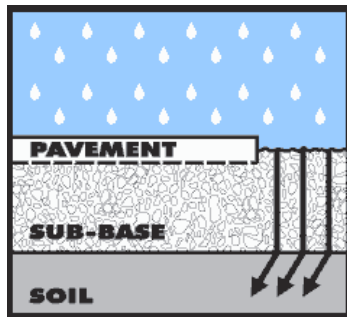

Figure 1: Water Penetration of Pavement (1)
- Water penetrates the surface layers of the pavement, softening the underlying pavement layers, which increases deflections. Figure 1 illustrates how water can penetrate a pavement.